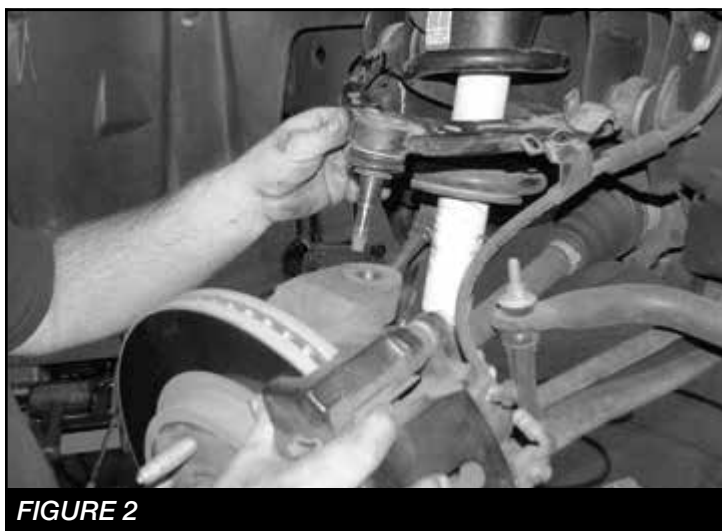

FIGURE 2
4. Remove the nuts securing the tie rod and upper arm ball joints to the spindle. Separate both joints from the spindle by striking the knuckle with a large hammer next to each joint on the knuckle to dislodge. **SEE FIGURE 2**